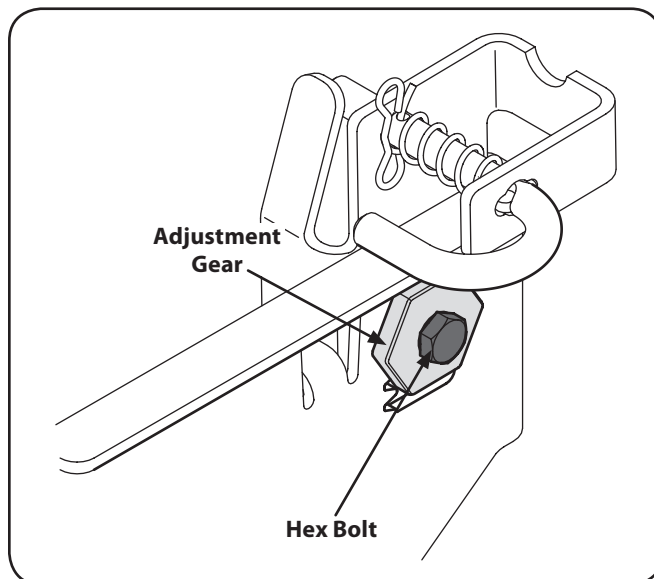

Figure 6-5
3. Loosen, but do NOT remove, the hex bolt on the rear left deck hanger link. See Figure 6-5.
4. Using a wrench, raise or lower the left side of the deck by turning the adjustment gear. See Figure 6-5.